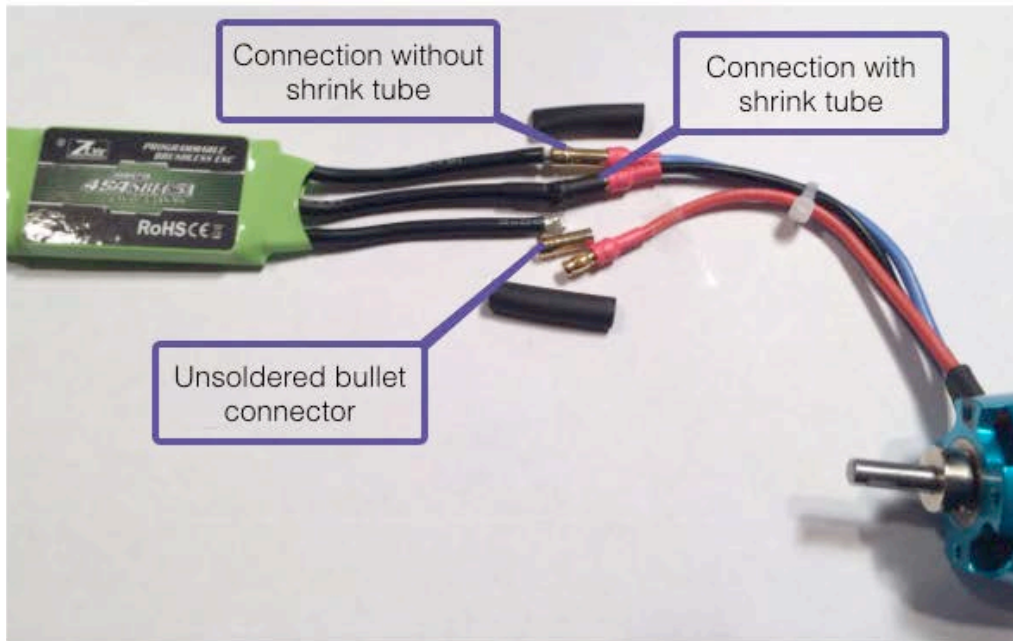

Figure 4 Bullet connectors can be used to connect the output of the ESC to the input of the motor.
- **Use bullet connectors.** You can solder bullet connectors (male or female) to the ESC's output wires (the three black wires) and solder the mating bullet connectors (female if you connected male to the ESC's wires, male if you connected female connectors to the ESC) to the input wires on the motor (see Figure 4). There are various sizes of bullet connectors, and the size you use depends on the size of the motor and the wire size. Many motors include the appropriate bullet connectors so it's best to use the connectors included with the motor you are using. If no connectors were provided, locate connectors appropriate for the size of the wires and the motor's power.